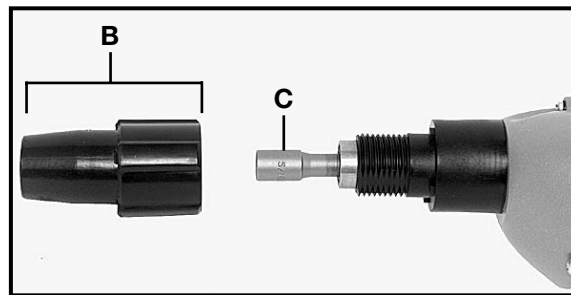

Fig. 3
3. Pull nutsetter (C), Fig. 3, straight out. If it is difficult to remove, grip with pliers and pull.